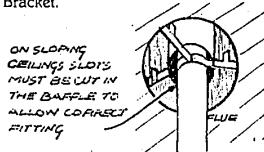

FIGURE 23
2.2.1 On sloping ceilings, the bottom end of the Heat Shield and Baffle must be trimmed to the appropriate angle, Figure 23. The Baffle will have to be slotted to fit over the arms of the Centralising Bracket.